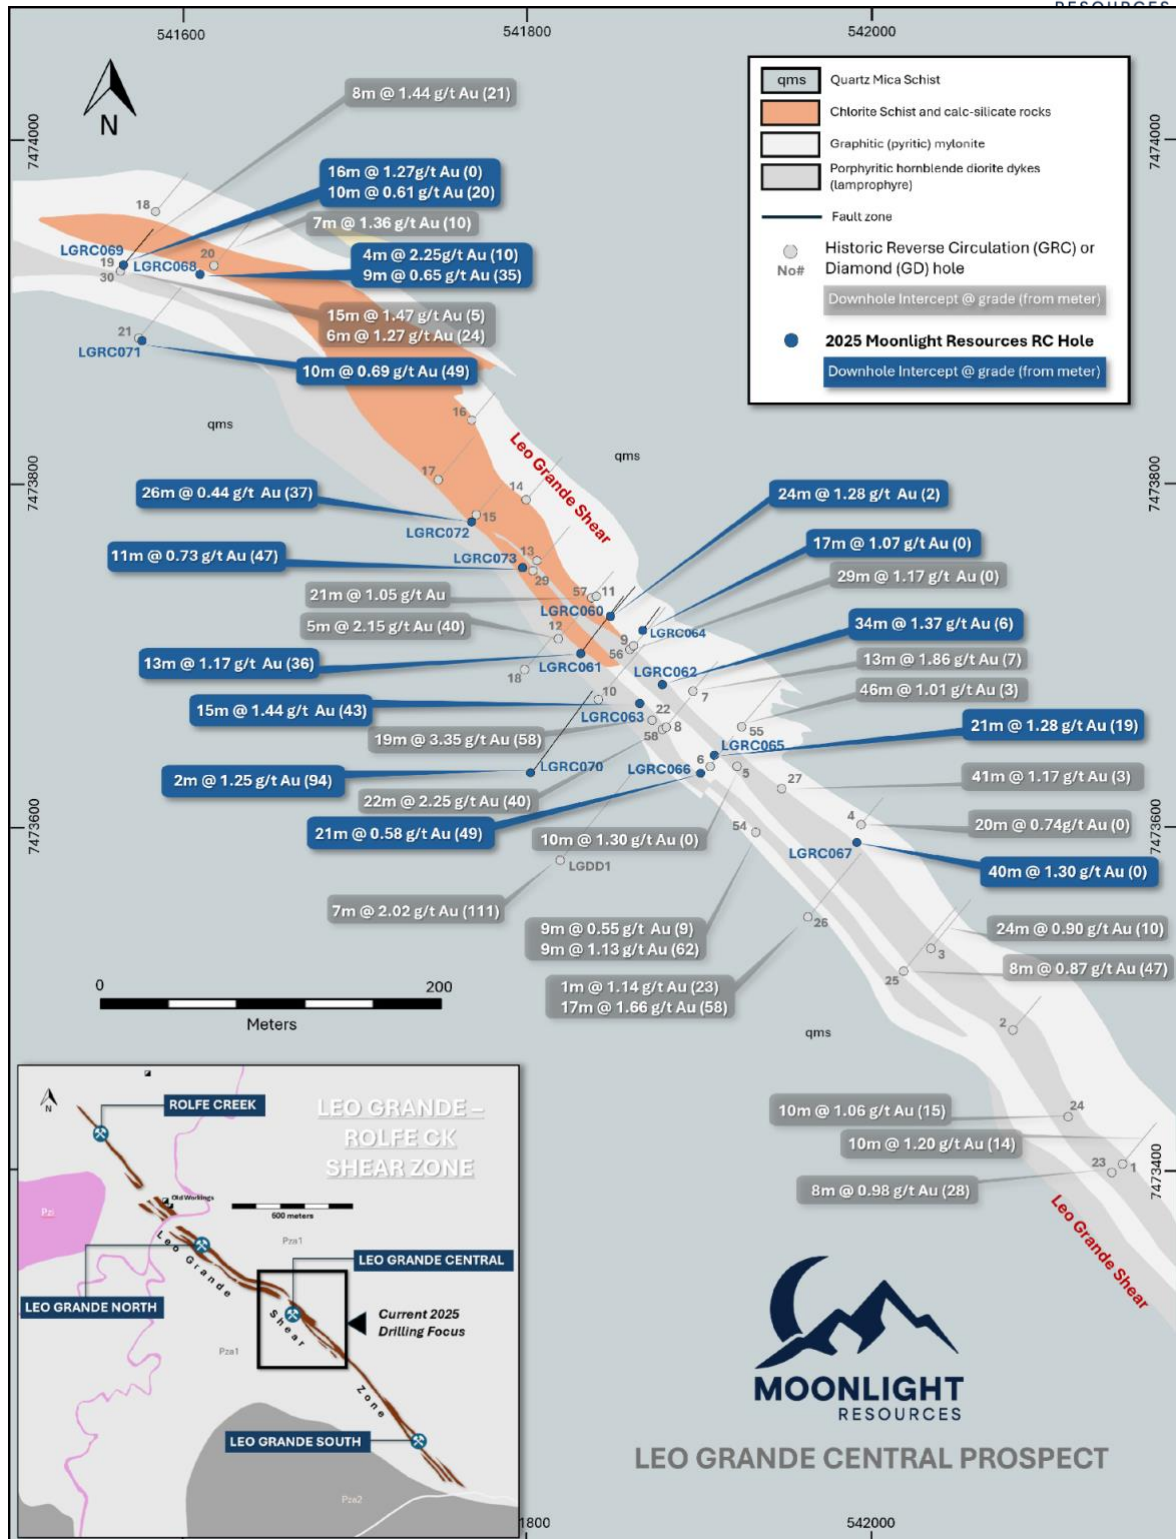

Figure 2 - Moonlight Resources Leo Grande Prospect, historic drilling overlaid with results from this release¹.
The campaign comprised fourteen (14) RC drill holes, **all of which successfully intersected thick intervals of gold mineralisation from surface or at very shallow depths** (refer Table 1 and Appendix A). These results validate Moonlight's early geological interpretation of Leo Grande and reinforce confidence in the existing geological model and extensive historical database of seventy (70) drill holes within the Leo Grande Prospect area (see Figure 2).
The initial programme of drilling was designed to confirm historical intersections and assess the continuity of gold mineralisation within the interpreted host structures at Leo Grande. The two-stage programme comprises this initial campaign, completed in December 2025, which included fourteen (14) RC holes for 940m and will be followed by a second campaign of up to 3,000 metres of RC drilling (see Figure 2).
Figure 2 shows the location of the historic holes, overlaid with those from this release. Forty-five (45) historic holes drilled at Leo Grande are located outside the envelope shown in Figure 2.